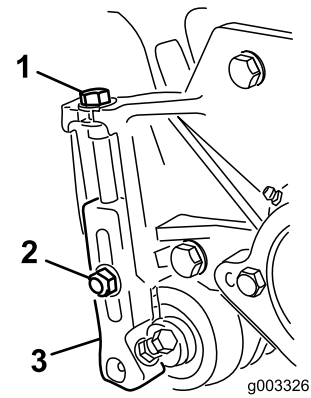

Figure 8
3. Loosen the locknuts securing the height-of-cut brackets to the cutting-unit side plates (Figure 8).